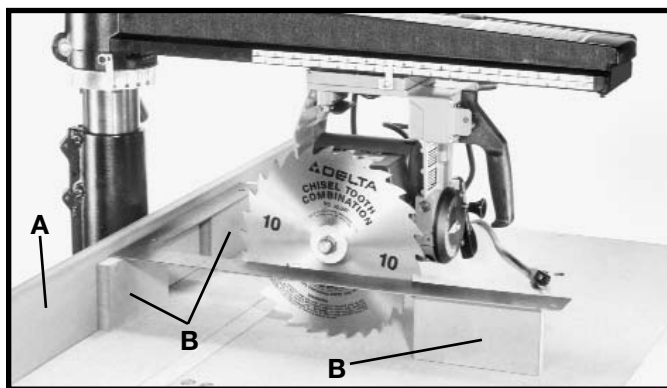

Fig. 38
3. Replace the fence with a flat piece of 3/4" wood (A) Fig. 38, at least 5" high. Tighten table board clamps.
4. Place three identical pieces of wood (B) Fig. 38, on the table and lay a framing square on them so that the short arm is flush against the fence and the long arm is against the blade as shown. Be sure square is between the teeth of the blade.